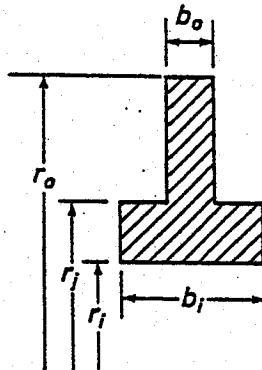

Figure 7a
- 7(a) A T section for a curved beam has the dimensions shown in Figure 7a. Show that the neutral surface has a radius, r_n , given by